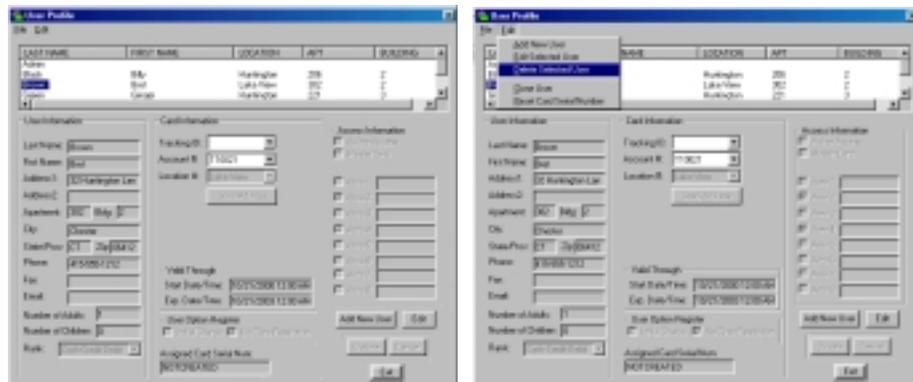

Figure 6.5 Deleting a User
2. Click the User you wish to delete from the Users List Window (Figure 6.5).
3. Select Delete Selected User from the Edit drop-down menu (Figure 6.5).